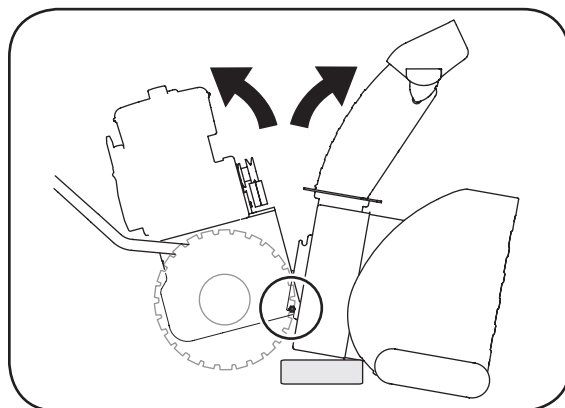

Figure 6-9
8. Place a block of wood underneath the auger housing as shown in Figure 6-9 and separate auger housing from the frame by tilting the housing forward and pulling up the handles.